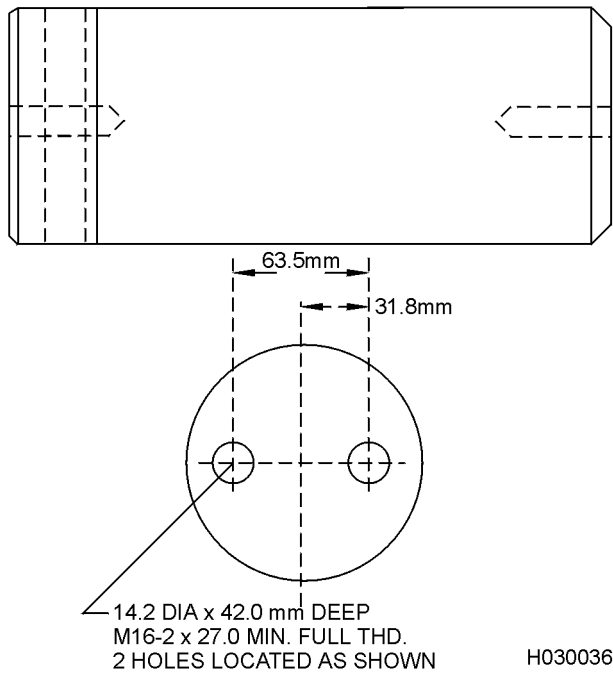

FIGURE 3-5. SUSPENSION PIN REWORK
2. As noted earlier, all pins must have 2 threaded holes at the inboard ends of the pin for future pin removal tool usage. Install new pins or rework the existing pins per Figure 3-5.